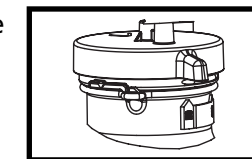

Figure 4
2. Rotate indicator on cap to the "On" position to apply soap (Figure 4).